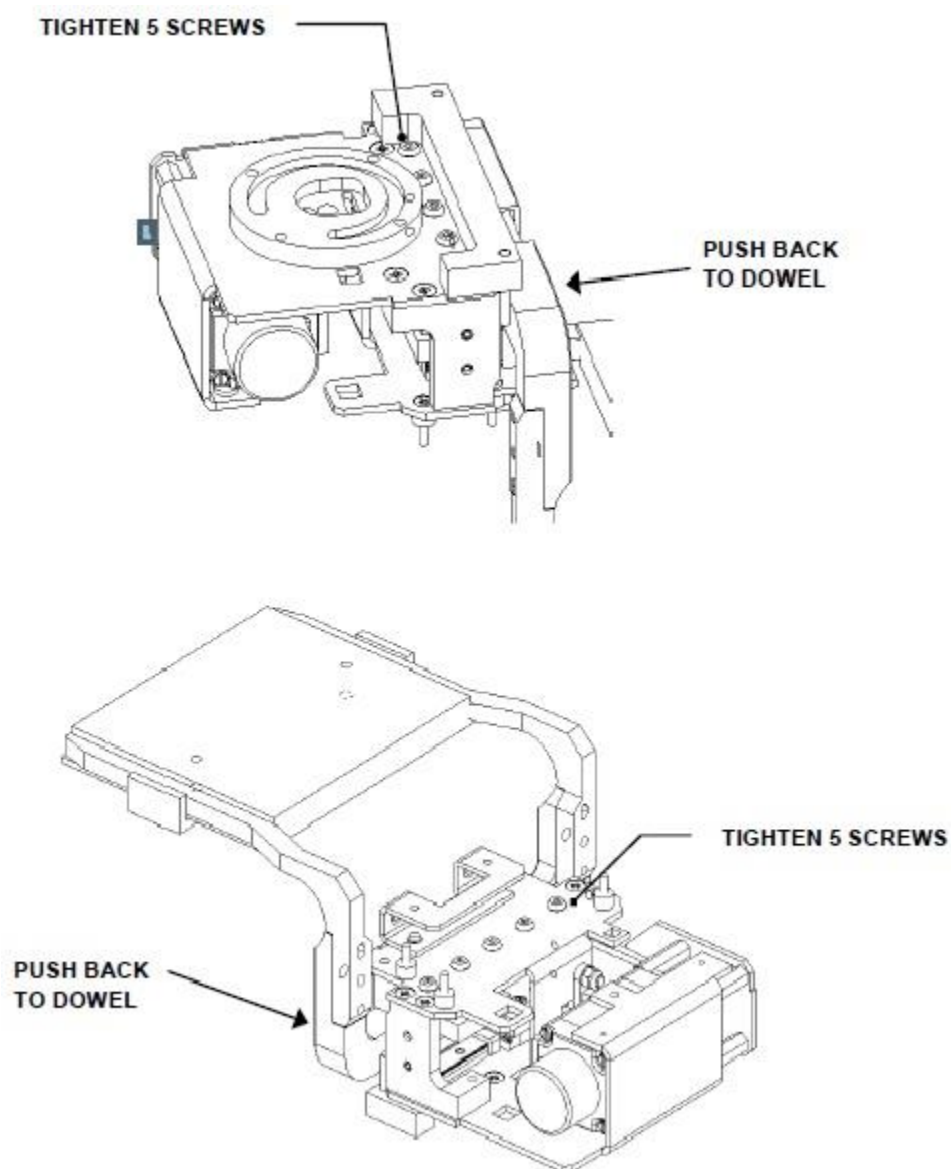

Figure H-13: Using the LH Gripper Arm Mounting Block
4. Ensure that the LH Gripper Arm Mounting Block is pushed back into contact with the dowel pin of the fixture (Figure H-13). While holding this position, tighten the five M3 x 6 BHCS in the top of the Gripper Upper Enclosure. Repeat this for the RH Gripper Arm Mounting Block and the five M3 x 6 BHCS in the Gripper Lower Plate. All screws should be tightened to 1.0Nm (8.8 in.lb.).